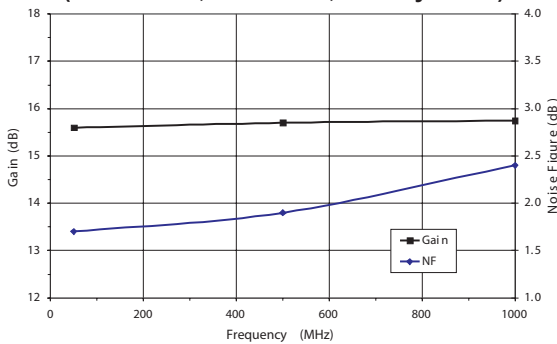

Figure 7: Gain and Noise Figure vs. Supply Voltage - S3 Package Device
(1) 160 channels, +17 dBmV per channel (measured at input), 6 MHz channel spacing.
(2) 80 channels, +19 dBmV per channel (measured at input), 6 MHz channel spacing.
(3) Two tones, -39 dBmV per tone at input.
(4) The device can be operated at reduced supply voltages from 4 V to 8 V for lower power dissipation. Refer to Figures 7, 8, 13, and 16 for performance variation with supply voltage.